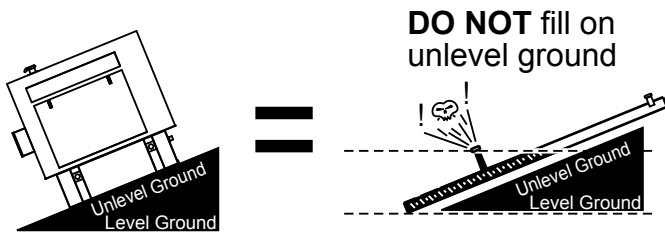

Figure 8. Only Fill on Level Ground
1. Place the generator level with the ground. Failure to do so will cause fuel to spill from the tank before reaching full capacity (Figure 8).